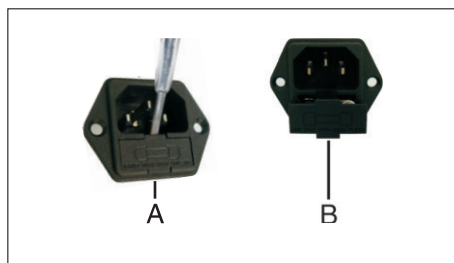

Fig.12
10.1 Insert the flat tip of a screwdriver into the recess in the fuse compartment below the power socket and use it as a lever (Fig.12-Ref.A);
10.2 Pull out the fuse compartment(Fig.12-Ref.B);
10.4 Put the compartment back into place (Fig.12-Ref.B).